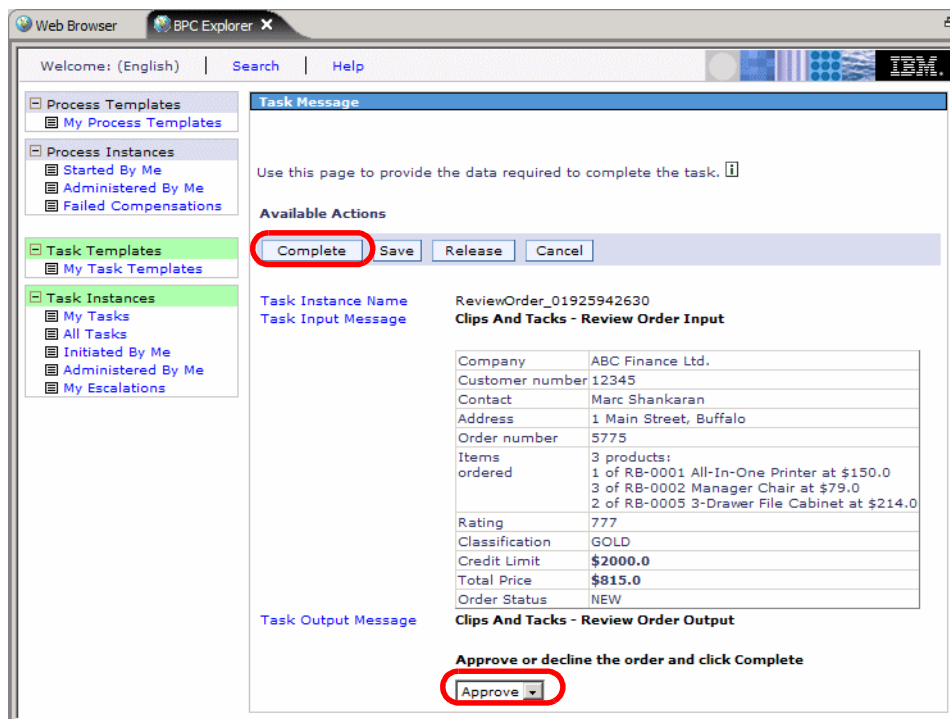

Figure 9-47 BPC Explorer: Custom JSPs for order review
- ▶ After clicking *Work on*, the custom JSP shows the input message and prompts to approve or decline the order (Figure 9-47).